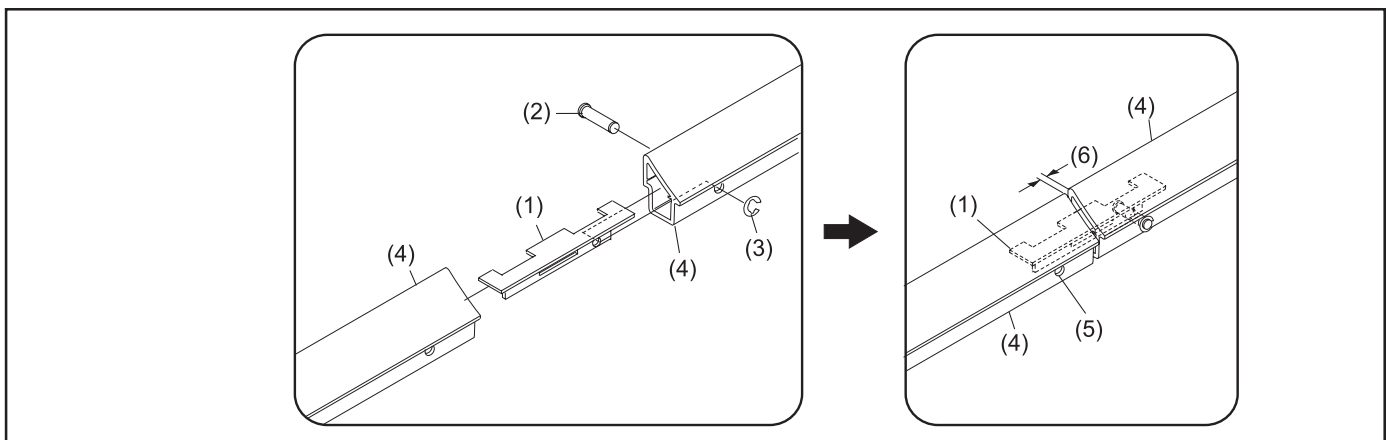

Figure 13. Join Rail Sections
The vertical supports and rails are assembled to the gutters prior to shipping. Visually check that pivot arms are oriented properly with the “e-clips” on the *outside* of the pins attaching vertical support to rail. Refer to *Figure 13* for proper e-clip position. Ball damage may occur if e-clips are on the inside of rails!
5. Slide a rail coupler (part number 84-200457-000, part of package number 84-860623-000) into the pit end of the foul line rail and insert pin (part number 84-200458-001) through rail to secure. Secure pin with e-clip. Refer to *Figure 13*.
6. Insert the next rail section over rail coupler of the previous rail. Reproduce gap (noted in step 3 above) between the two rail sections. Using a 9/32" drill bit, insert drill bit through hole in rail and drill through metal rail coupler. Refer to *Figure 13*.